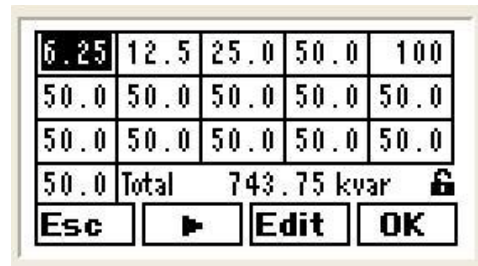
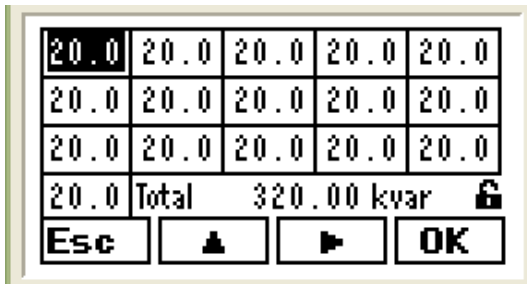
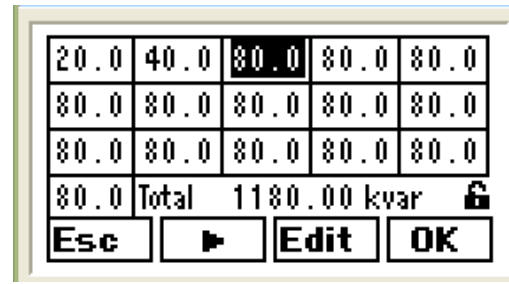

Fig.24.- Programming capacitor power
Fig.25.- Programming capacitor power
Fig.26.- Programming capacitor power
- Press **Edit** and the password screen will be displayed if the edition is locked. Follow the steps described in section 7.1. After entering the password the screen shown on Fig.24 will be displayed.
- On the screen shown on Fig.24, each box represents a capacitor step and the number inside it states the nominal kvar of the capacitor. Use the arrow  to change the step being adjusted. To adjust the first one, press **Edit** when it is highlighted in reverse video and the screen shown on Fig. 25 will be displayed, where you can change the kvar of the highlighted step.
- On the screen shown on Fig.25, use the arrow to change the digit and use the arrow to change the value. The kvar value will be programmed for each step and it will be confirmed by pressing **OK**.
NOTE: After programming the first step, all other steps will change their values, using the value of the first one (20 kvar in the case shown on Fig.25). The screen on Fig.24 will be displayed and we can then program the next step. Assume that the second step is 40 kvar. Select the second step with and repeat the operation to program value 40. When this operation is complete, press **OK**. If we assume that the third step is 80 kvar, follow the same procedure. The screen shown on Fig. 26 will be displayed, where all steps after the last step programmed also have the value 80.